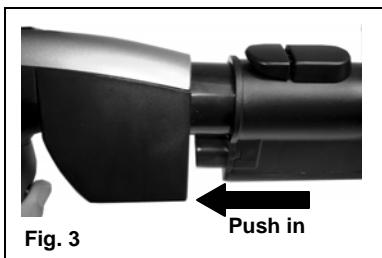
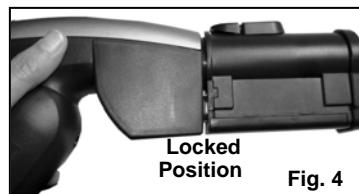

Fig. 3
Fig. 4
1. Holding the telescopic tube insert it into the telescopic tube receptacle that is on the hose handle. Push the telescopic tube in until it is locked in place. (Fig. 3, Fig. 4)